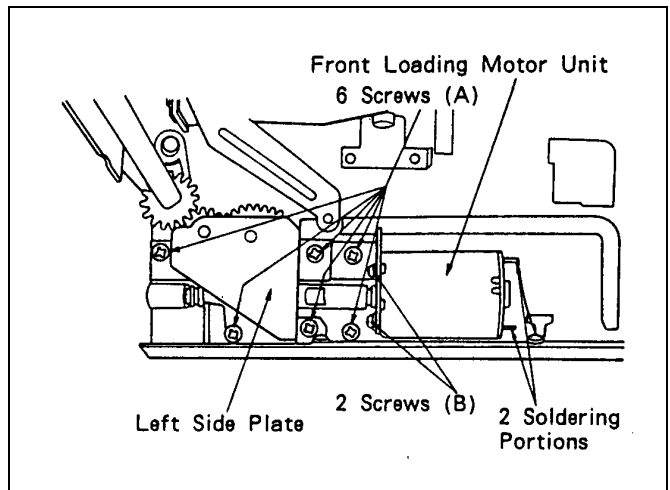

Figure 7-14-1 Loading Motor Removal
3. Unscrew 6 screws (A) and unsolder 2 lead wires on Loading Motor as shown in Figure 7-14-1.
4. Remove Front Loading Motor Unit and Left Side Plate as shown in Figure 7-14-1.
5. Unscrew 2 screws (B) and remove Front Loading Motor as shown in Figure 7-14-1.